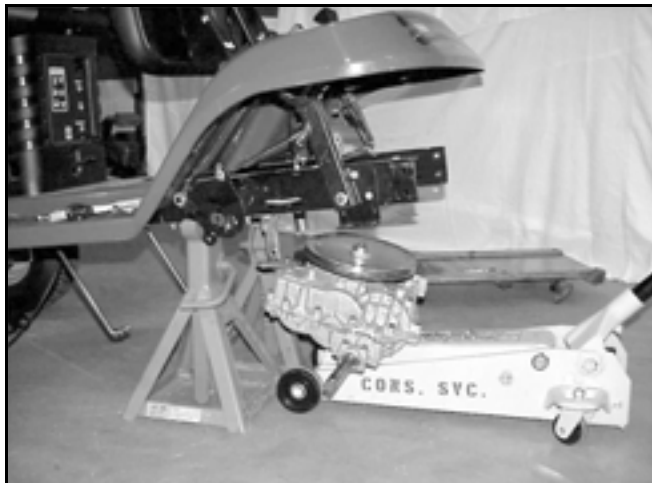

Figure 47
6. Use a floor jack to support and lower the transaxle from the frame. Unbolt and remove the two torque strap bolts located in the front of the transaxle. Remove the 4 axle bolts holding the transaxle to the frame (Figure 47).